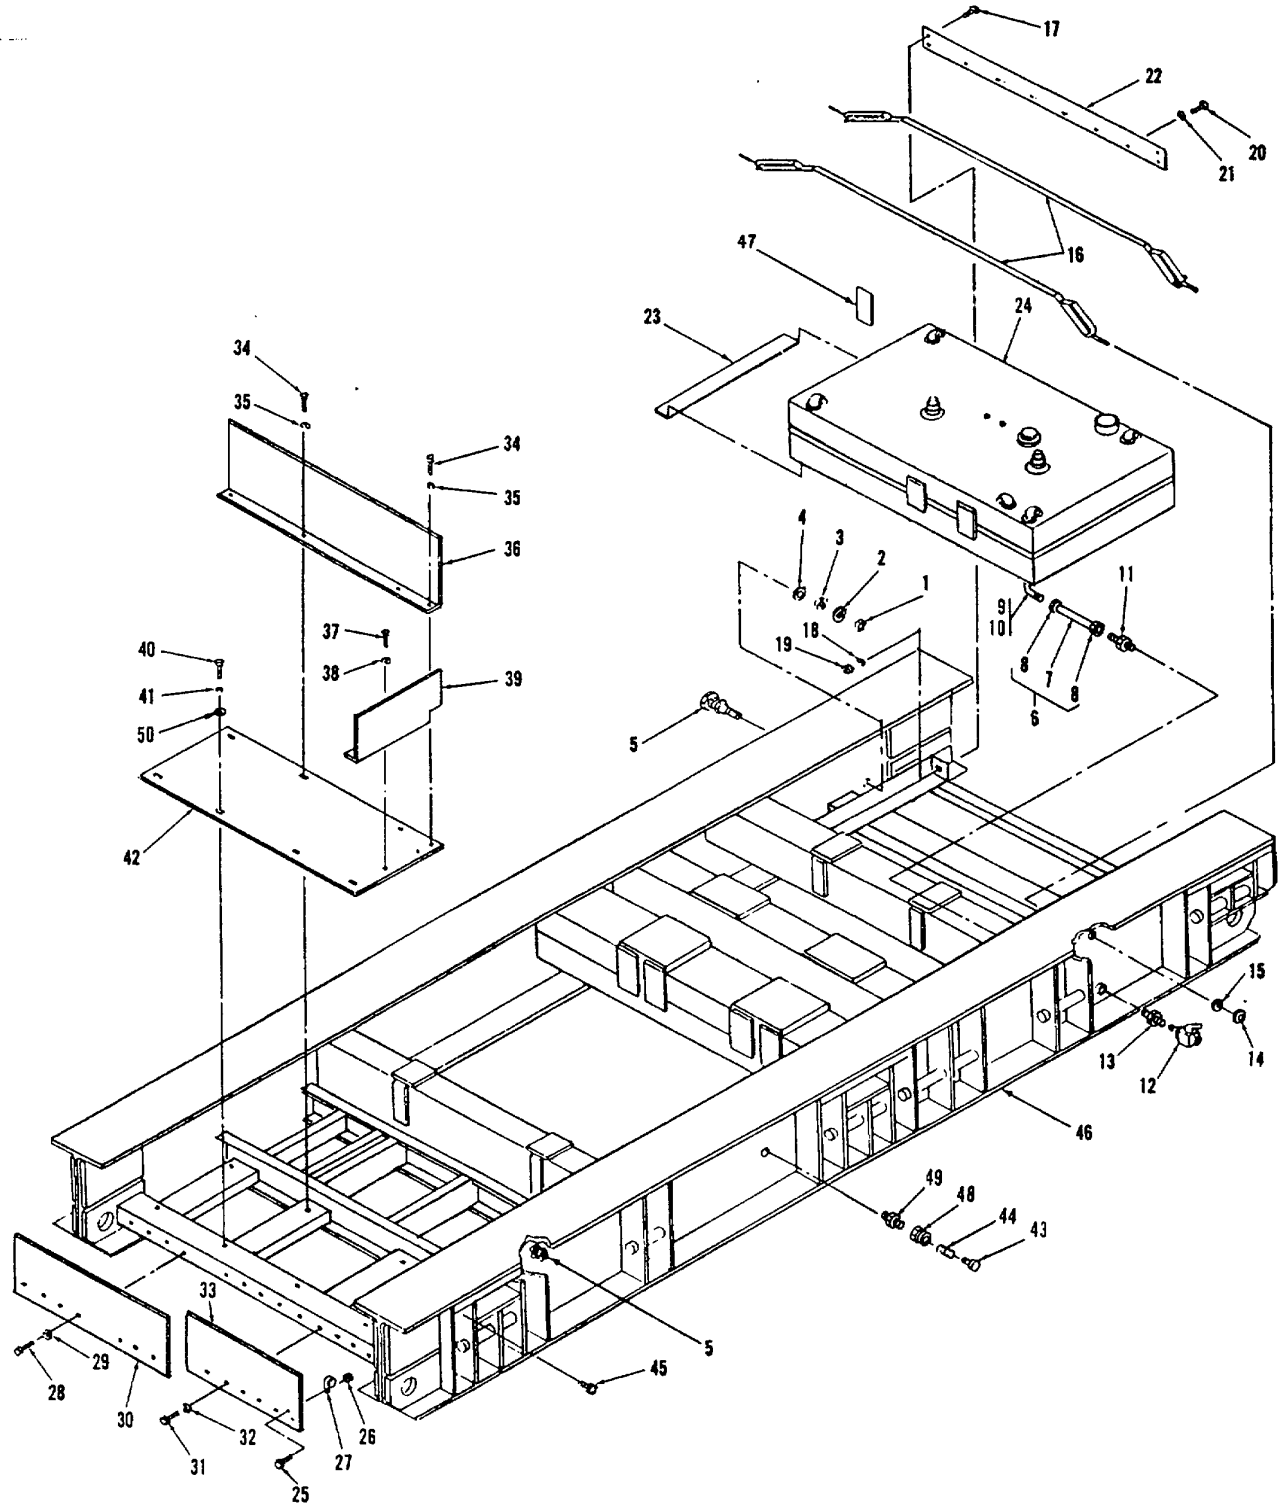

Figure 4-60. Base Assembly, Exploded View
4-88. GENERAL. This base assembly, figure 4-60, consists of a rigid frame skid base, fuel tank, and related components. The tank is recess-mounted in the skid base. The engine and generator are mounted on the skid base assembly.
- (1) Remove two ground terminals (5, figure 4-60), one on each side of base assembly by
LEGEND FOR FIGURE 4-60